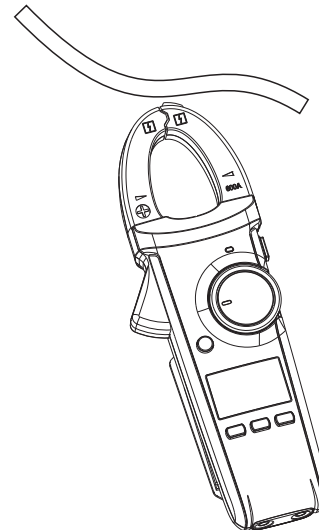

Figure 10
8. Non-contact AC voltage sensing NCV (see Figure 10)